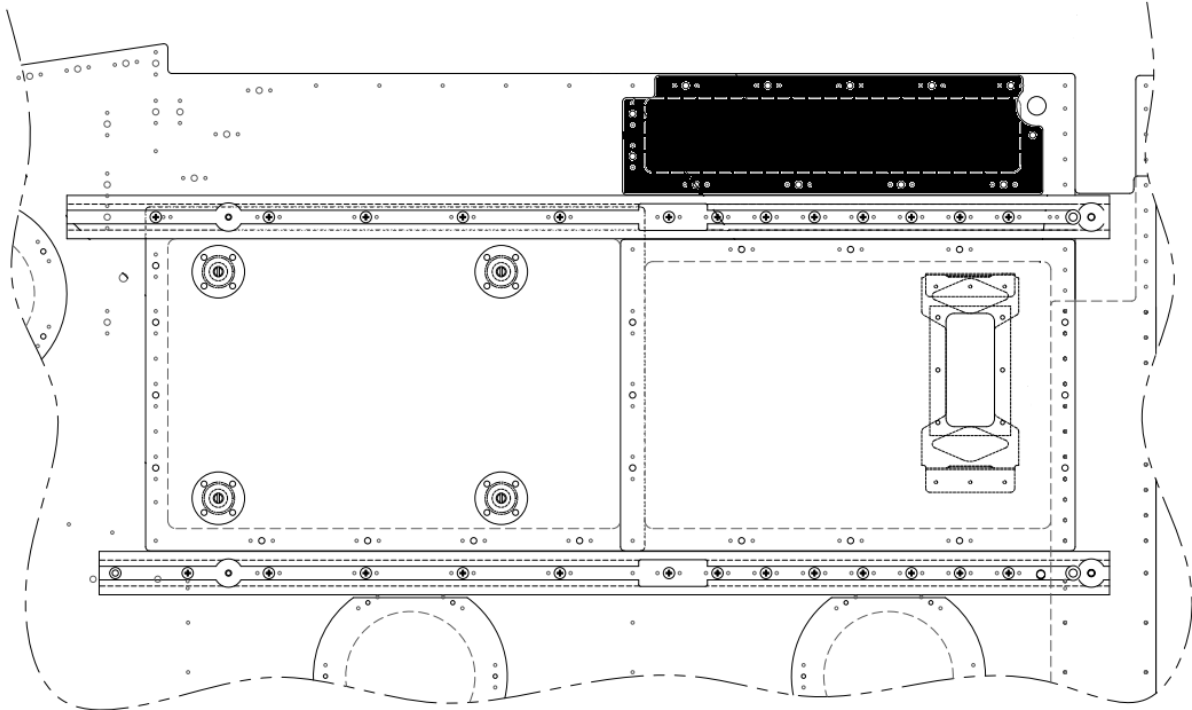

Figure 2 – RHS Cockpit Access Panel for Lower Strut Bolt
2. Remove cockpit access panels to get access to the lower strut bolt. The RHS access panel is shown in Figure 2.